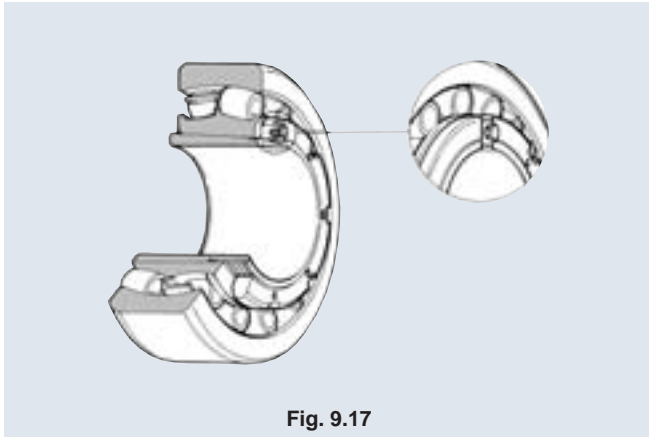

Fig. 9.17
- (9) When a large bearing is installed to a shaft, its outer ring will be deformed by its own weight into an elliptical form. The clearance measurement at the lowest point on a deformed bearing will be greater than a true clearance. Remember that a radial clearance value measurement at this point will result in excessively large tightening allowance.
- (10) The adapter used on a large bearing whose bore number is 44 or greater is a lock plate type (**Fig. 9.17**). For this arrangement, first tighten the nut, then fit the lock plate into the cutout on the nut. In this case too, do not loosen the nut to allow the cutout to match the lock plate. Once the lock plate is seated in the cutout, secure the adjustment with a spring washer and a hexagonal nut.